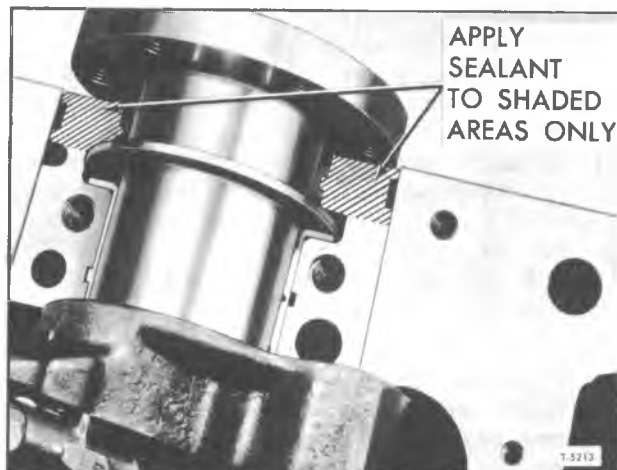

Figure 37—Sealer at Bearing Cap
3. Apply sealer on cylinder block area (fig. 37).